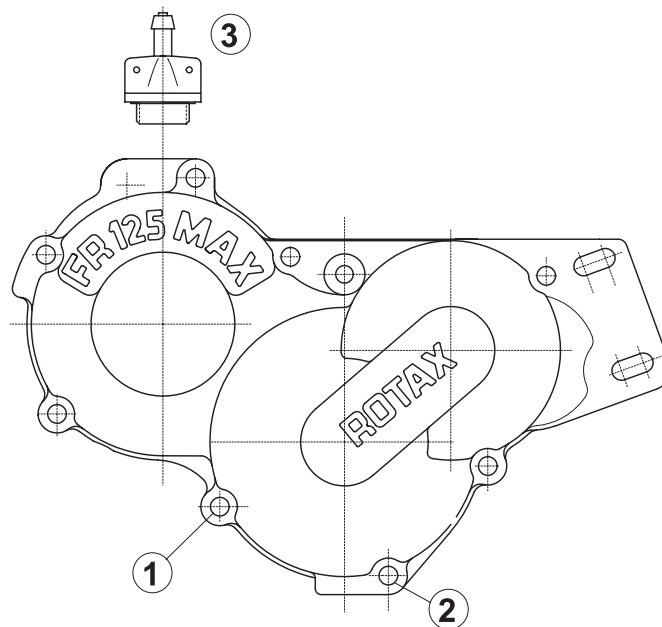

Fig. 3
⇒ Remove the Allen screw (1) and sealing ring (fig. 3). This particular Allen screw for attachment of the gear cover serves also to check the oil level. If no oil emerges through the tapped hole, remove the venting screw (3) and slowly fill in oil of specification SAE 15W40 until oil emerges at oil level checking screw (1). (Filling capacity on new engine is 0,05 l / 1,7 fl OZ (US).